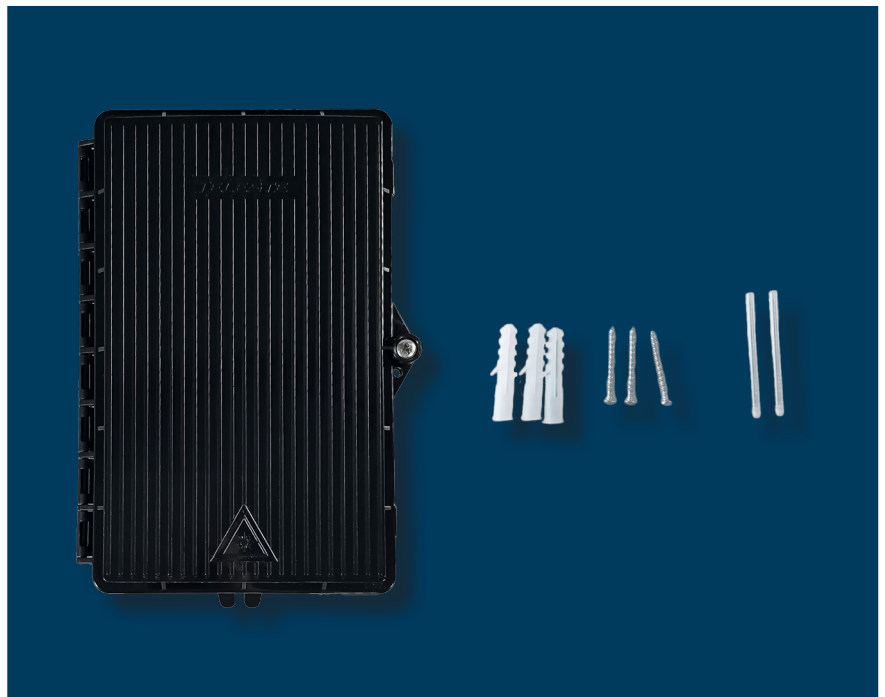

Figure 1 - Package contents
Kindly unpack the TEN-FWO8EB and confirm that all items are present, as illustrated in Figure 1 and in the following bullet list. Should any items be missing, please promptly contact your local seller for assistance.
- Silicon tubes for 8 / 7 / 6 mm (not shown in Figure 1)
- 2 x cable ties (not shown in Figure 1)